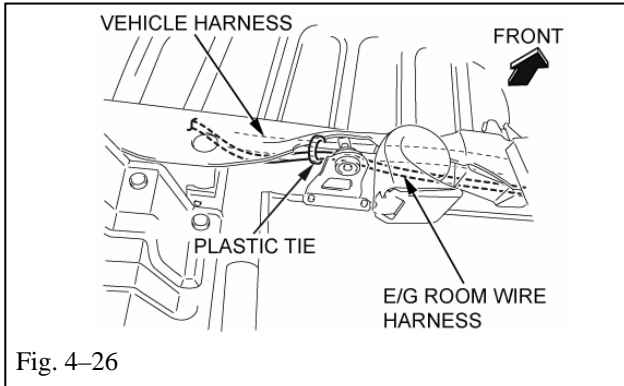
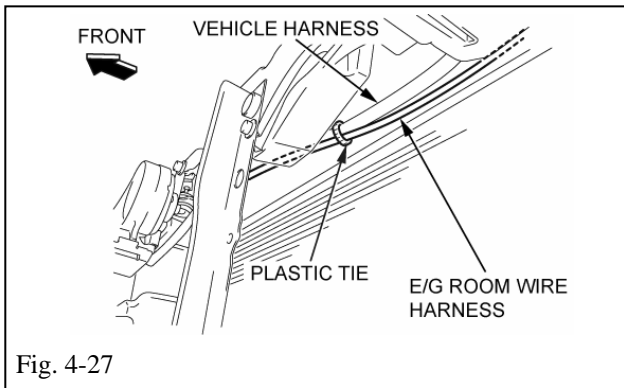

Fig. 4-26
Fig. 4-27
- (z) Secure the E/G R W to the vehicle side wire harness in front of the radiator area using three (3) plastic ties (150 mm black). (Fig. 4-26, Fig. 4-27, and Fig. 4-28)